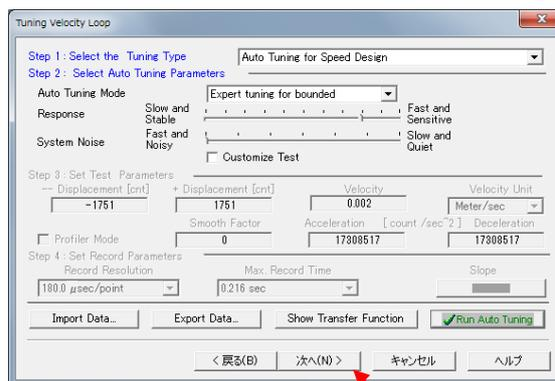

Fig. 6-2-29
6) Click **Next >** button in the velocity loop tuning screen (Fig.6-2-29).